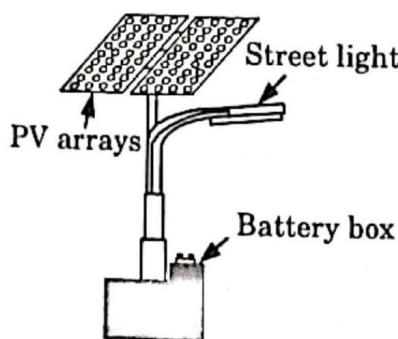

Fig. 1.17.1. Solar street light.
1. It comprises of a compact fluorescent lamp, two 35 watt solar arrays and an 80 ampere-hour tubular cell battery as shown in Fig. 1.17.1.